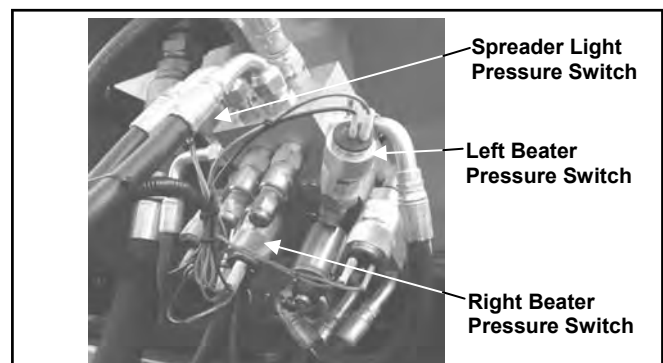

FIGURE 13. ADJUST REMOTE PRESSURE SWITCHES
(See figure 13 & 14)
spreader box. (See figures 13 & 14) Loosen set screw on side of sleeve. Turn the adjusting sleeve in (clockwise) just until the horn stops sounding. Then turn the adjusting sleeve out (c/clockwise) until the horn sounds again. Then turn 1/4 turn more counter clockwise. Tighten set screw. The switch should then be set.
2. The pressure switch for the “Spreading Light” is located in front of the left hand beater pressure switch (see figure 13 & 14).